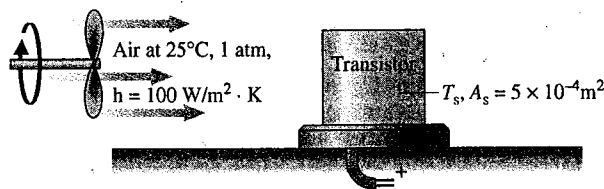

Fig. P2.60
2.60 As shown in Fig. P2.60, the outer surface of a transistor is cooled convectively by a fan-induced flow of air at a temperature of 25°C and a pressure of 1 atm. The transistor's outer surface area is  $5 \times 10^{-4}$  m2. At steady state, the electrical power to the transistor is 3 W. Negligible heat transfer occurs through the base of the transistor. The convective heat transfer coefficient is 100 W/m2·K. Determine (a) the rate of heat transfer between the transistor and the air, in W, and (b) the temperature at the transistor's outer surface, in °C.